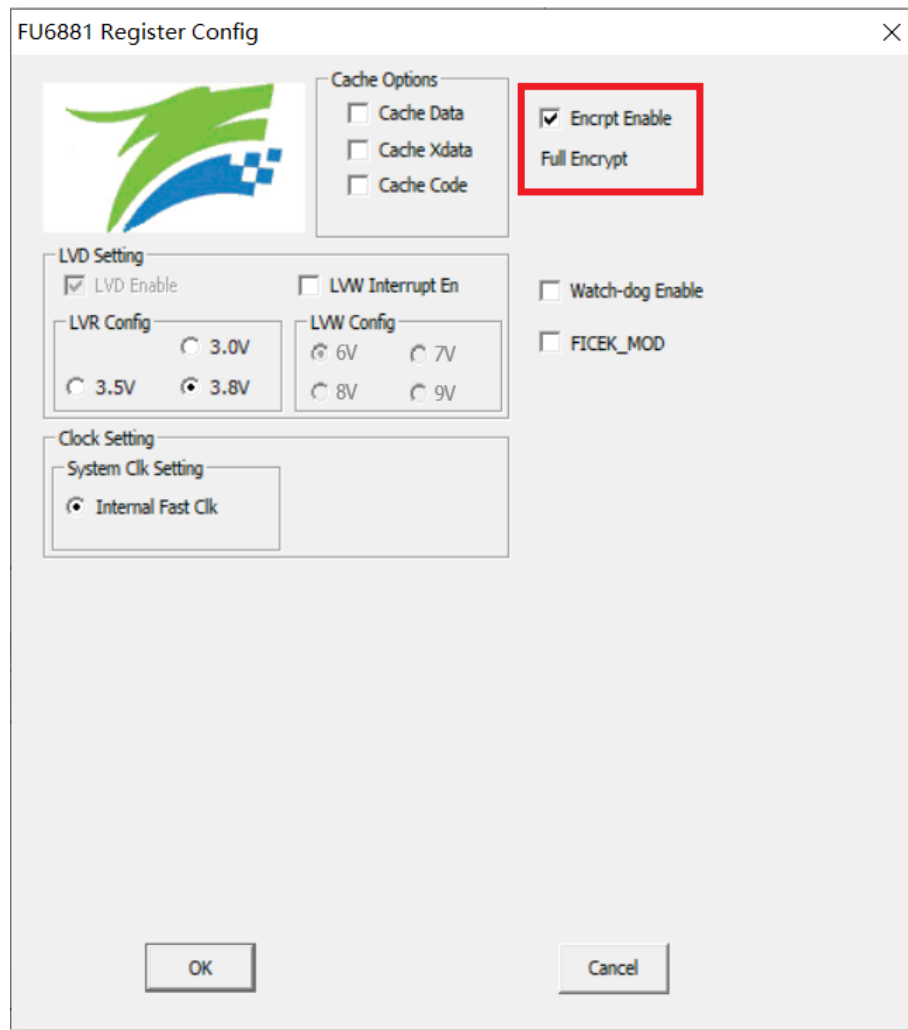

Figure 36-2 Full Code Protection Mode
2. Select the options as shown in Figure 36-2, and click OK. Then compile the project and download it. Get the BIN file and program it to Flash.
3. Added “ADCLK2” to sampling time of ADC module; 4. Added section 5.10 LIN Electrical Characteristics and updated descriptions in section 12.1 LIN Introduction; 5. Corrected “TIM1_KFMAX” as “TIM1_KRMAX”; 6. Modified the type “W” of bit [7] T1UPD in section 16.3.6 TIM1_IER (0x406D) as “W1”; 7. Deleted the register T2OPM in Figure 17-1 Output Mode Block Diagram and Figure 17-5 Schematic Diagram of Input Capture Mode 8. Standardized the writing of the registers TIM1_KR and TIM1_KF (section 16 Timer1), TIM2_DR, TIM2_CNTR and TIM2_ARR (section 17 Timer2); 9. Updated descriptions on the bit [1] in section 23.3.5 P1_PU (0x4054); 10. Modified “0.1μF ~ 1μF capacitor” on the bit [VREFEN] in section 27.2.1 VREF_CR(0x404F) as “1μF~4.7μF capacitor”; 11. Updated Figure 31-2 Configurations of LV Reset Threshold, LV Interrupt and LV Warning Threshold and Figure 36-2 Full Code Protection Mode 12. Standardized the document format and modified some descriptions.